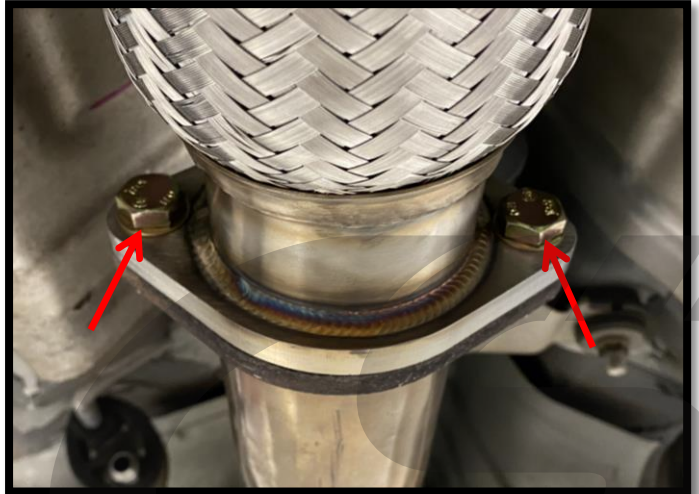

Figure 10g
i) Secure the flange that connects the downpipe to the midpipe. Center the flanges on one another and tighten the two 17mm bolts/nuts to **45ft-lbs**. Hardware shown tightened in **Figure 10g**.